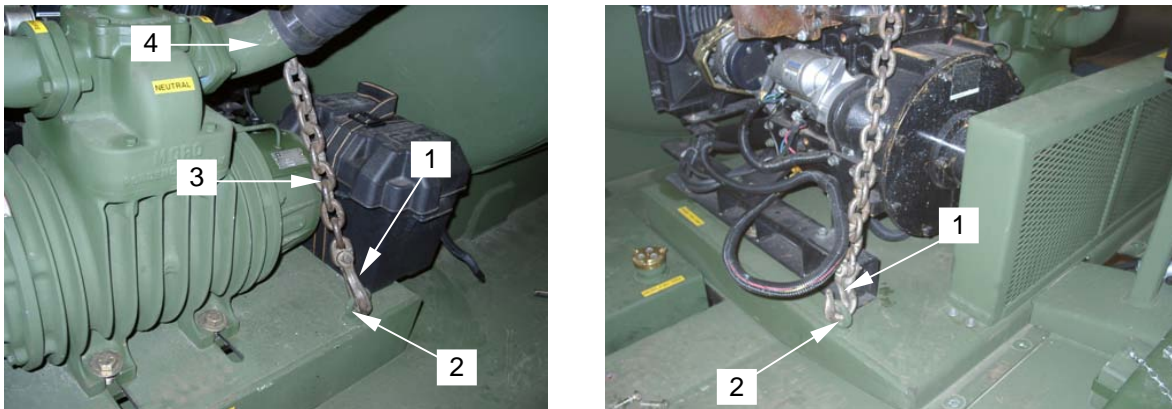

Figure 4. Attaching Lifting Hooks
13. Attach lift hooks (figure 4 item 1) to skid lifting eyes (figure 4 item 2) as shown. Ensure rear lifting chain (figure 4 item 3) is positioned behind vacuum pump port (figure 4 item 4).